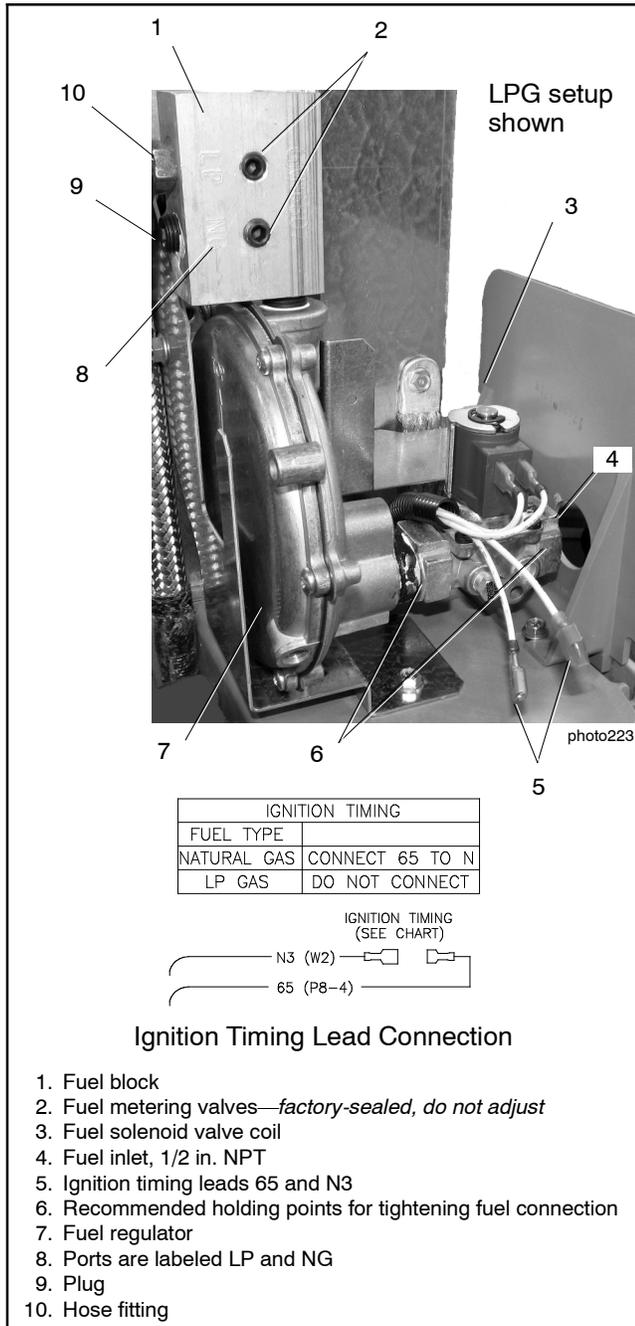

Figure 1-10 Fuel System, 14RESA/RESAL Equipped with Fuel Block (built before June 26, 2014)
Note: Model 14RESA/RESAL generator sets built before June 26, 2014 use a fuel block for the fuel type selection. See Figure 1-10 and use the instructions in this section for fuel conversion.
Use the following procedure to convert from natural gas (NG) to LPG. See Figure 1-10 for the fuel system component locations.
5. Remove the hose clamp and fuel hose from the hose fitting in the fuel block. See Figure 1-10.
6. Remove the hose fitting from the natural gas outlet port in the fuel block. See Figure 1-10.
7. Remove the plug from the LP port in the fuel block. See Figure 1-10.
11. Disconnect digital ignition timing leads 65 and N3 for LPG. The ignition timing leads are located near the fuel solenoid valve. See Figure 1-10.
To convert from LPG to natural gas, follow the fuel conversion procedure above, moving the hose fitting to the natural gas port and plugging the LP port. Connect the DSAI leads for natural gas. See Figure 1-10.
Note: Model 14RESA/RESAL generator sets built before June 26, 2014, use a fuel block for the fuel type selection. See Figure 1-10 and use the instructions Section 1.8.1 for fuel conversion.